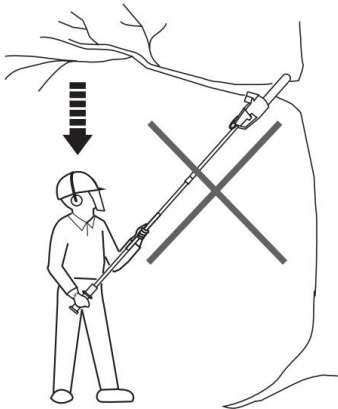

Fig. 51
4. Never stand directly under the limb you are sawing. Objects may fall different than expected. Always position yourself out of the path of falling limbs (Fig. 51).